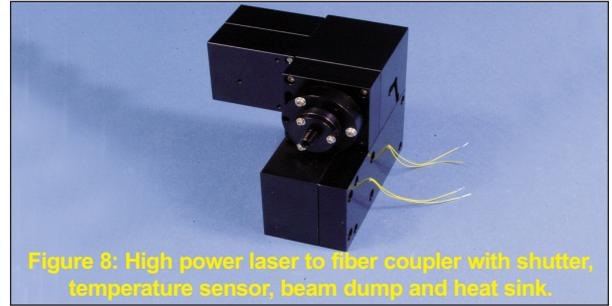

Figure 8: High power laser to fiber coupler with shutter, temperature sensor, beam dump and heat sink.
2. A customer is using OZ Optics shutter, built for use with high power applications, inclusive of beam-dump as shown in Figure 8. In case the beam-dump or inadequate heat sinking causes excessive heating of the shutter assembly, a temperature sensor signal can be used by the operator to initiate suitable actions (trigger alarm, safety interlock, laser shutdown etc.)
- High power shutters involving reflectors to divert beam into beam-dump, with optional heat-sinking - See Figure 8